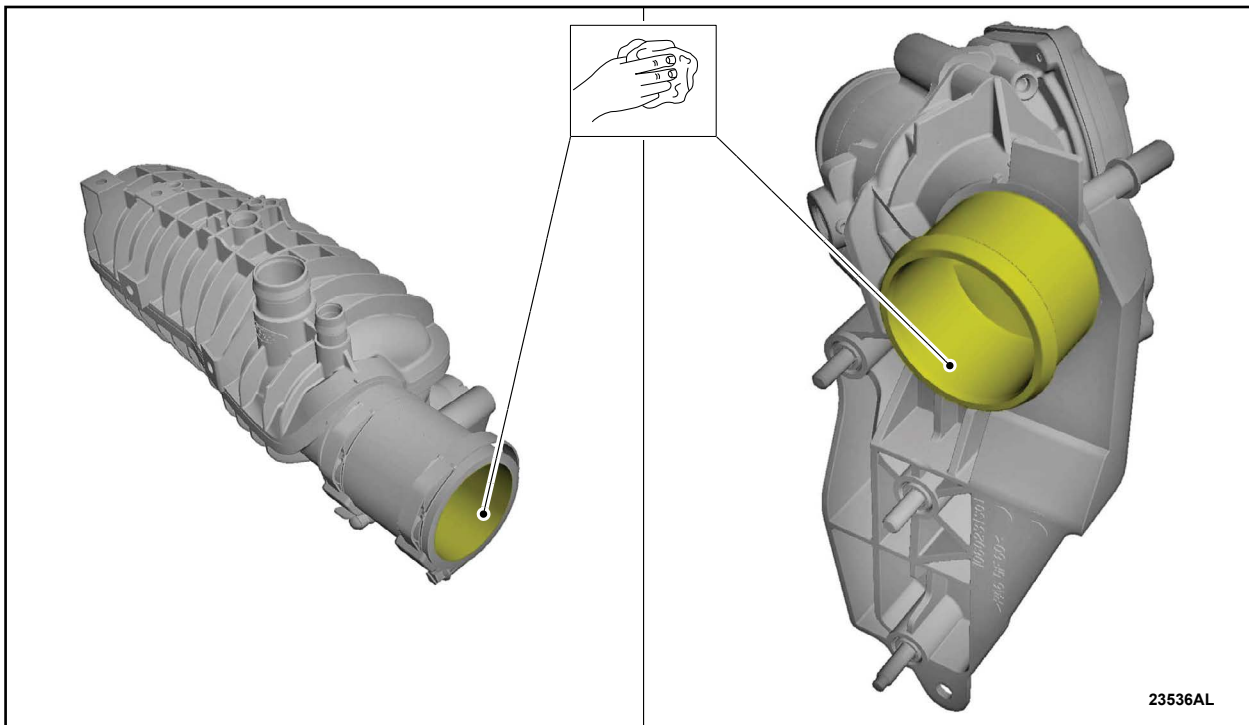

FIGURE 42
50. Wipe clean the mating surfaces. See Figure 42.